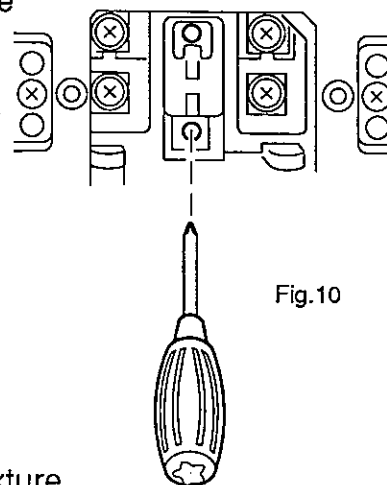

Fig.10
Step 10 Remove the tension bearing while holding the beam. (Fig. 10 & 11)